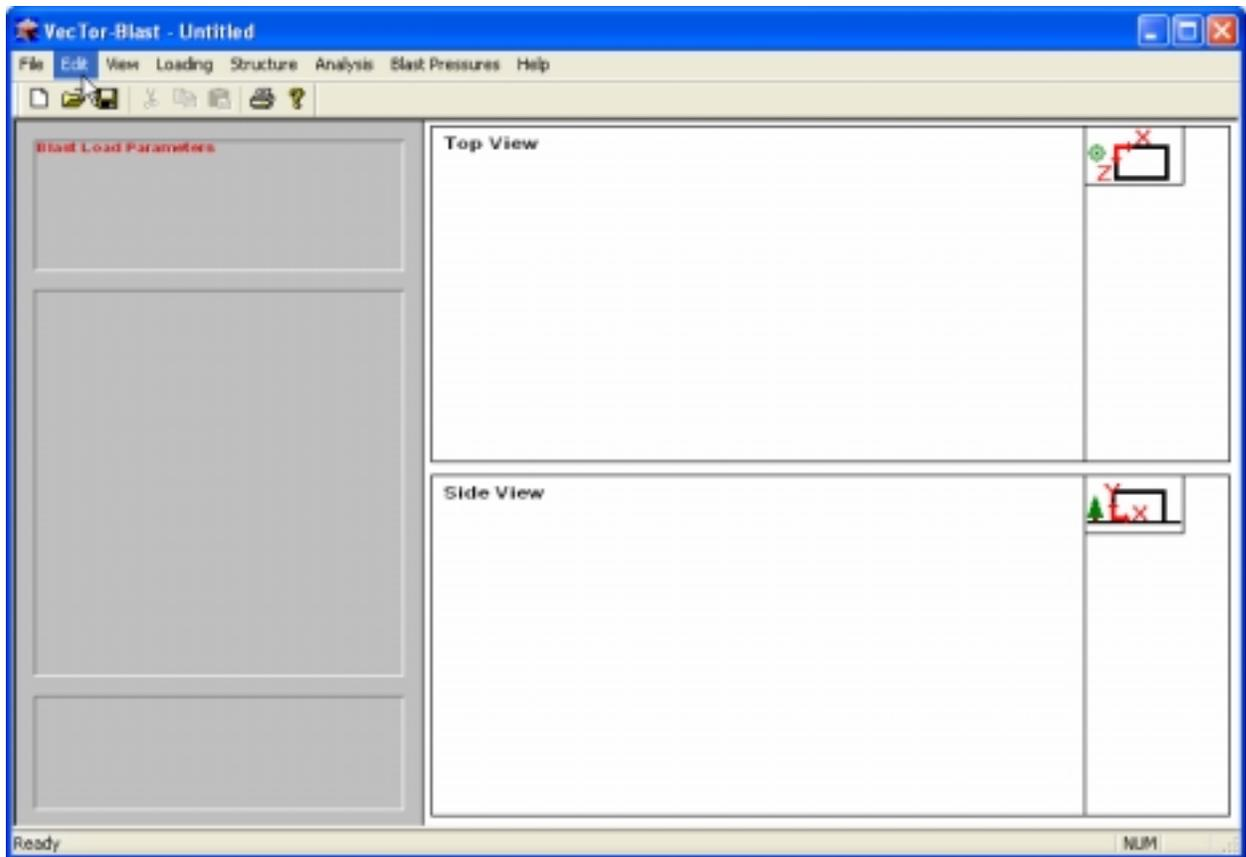

Figure 1 *VecTor-Blast* Interface.
Upon starting *VecTor-Blast*, an introduction window appears over the view window. The introduction window disappears if you click the mouse, hit a key, or wait a few seconds and the view window remains as shown in Figure 1. *VecTor-Blast* is a single document interface. The exact appearance will vary slightly depending on the operating system.
4. A summary of the entered information will appear in the grey Blast Load Parameters Box in the left hand corner of the main window (see Figure 1).
4. The plan and elevation view of the structure will appear in the Top View and Side View boxes along with the dimensions of the structure (see Figure 1).
4. The location of the explosion and the explosion itself will appear in the Top View and Side View boxes (see Figure 1).